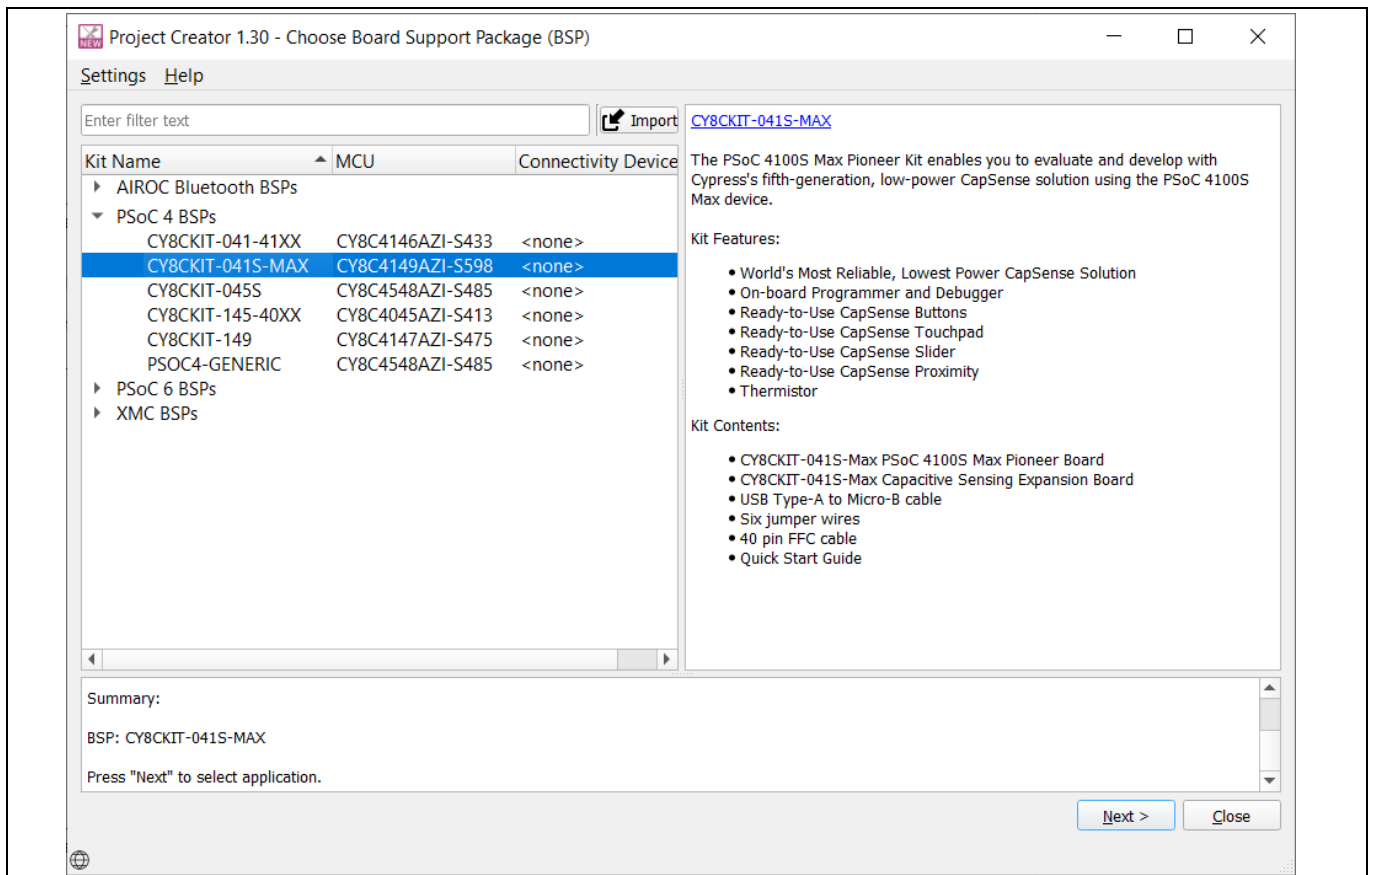

Figure 9 Board Support Package (BSP) window
- b. Select the CY8CKIT-041S-MAX in the Choose Board Support Package (BSP) window and click **Next**, as shown in **Figure 9**.